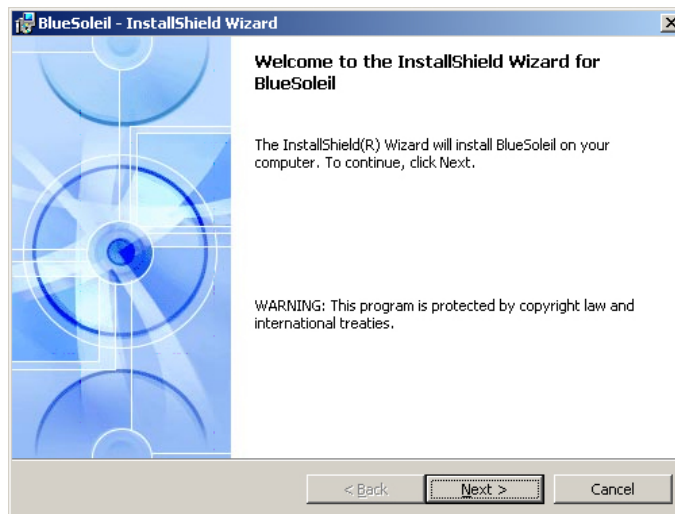

Figure 7-35: Welcome Screen
Step 2: A welcome screen appears (**Figure 7-35**). To continue the installation process click **NEXT**.